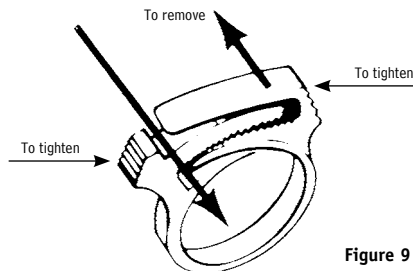

Figure 9
1. Remove nylon clamp from plastic anchor plate on hood (see Figure 9). Do not remove foam from inside the breathing tube, used with CC20 Series Airline Respirators. The foam helps reduce the noise level of incoming air.